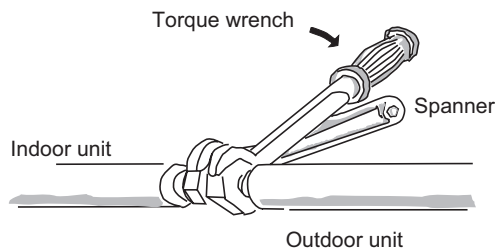

Fig. 1-11-8-10
(2) To fasten the flare nuts, apply specified torque.
- When removing the flare nuts from the tubing connections, or when tightening them after connecting the tubing, be sure to use 2 adjustable wrenches or spanners. (Fig. 1-11-8-10) If the flare nuts are over-tightened, the flare may be damaged, which could result in refrigerant leakage and cause injury or asphyxiation to room occupants.